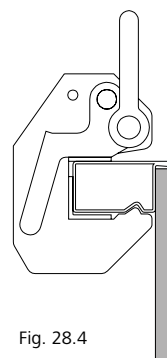

Fig. 28.4
3. Release the safety lever and press it back to its start position so that the crane hook is locked completely (Fig. 28.4).